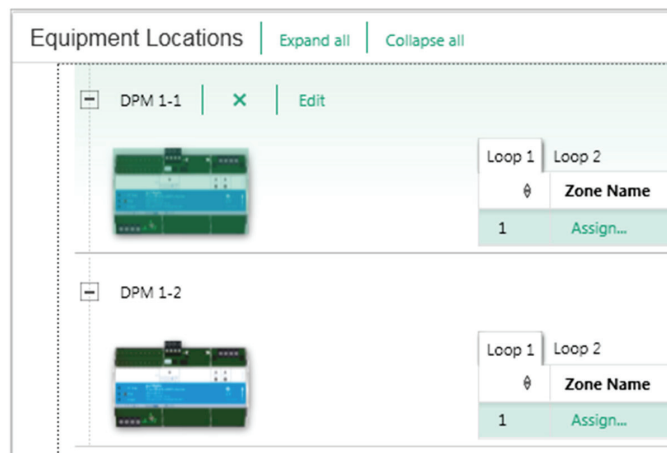

Figure 3
2. Add the appropriate number of DPMs into your project and name them using the following format, *[DPM (Panel #)-(DPM #)]*. For example, if you are mounting 2 DPMs in the same DIN rail panel, you would name the first module DPM 1-1, and the second module DPM 1-2. See Figure 3 below.